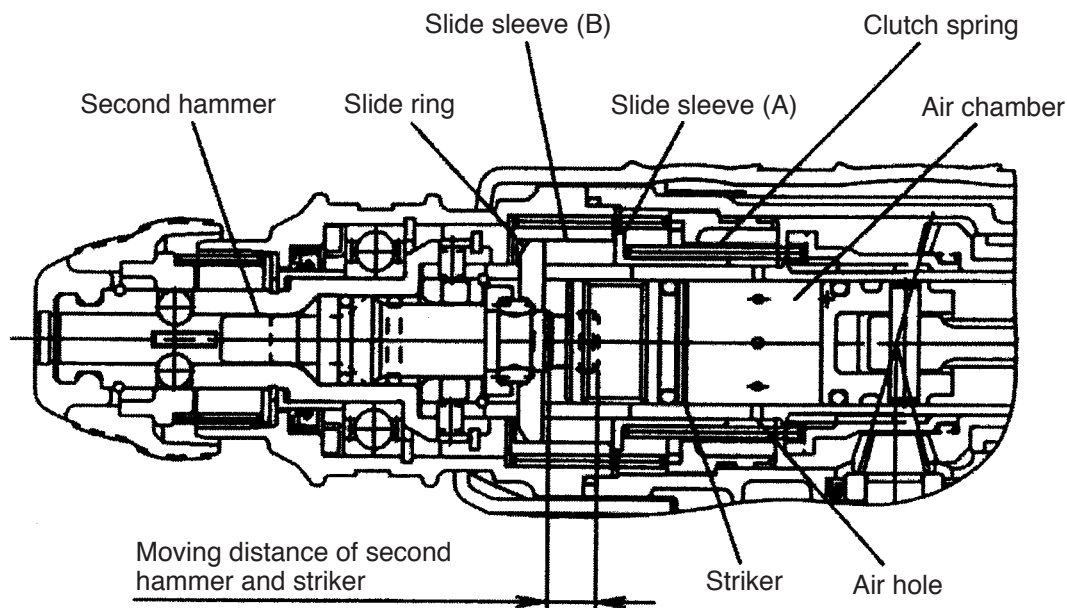

Fig. 4
When the working tool is released from the workpiece, slide sleeve (A) and the second hammer are forcibly moved to the position illustrated in Fig. 4 by clutch spring, and the striker moves out of striking position. When this occurs, the air holes located at the position unaffected by the rebound of the striker at no load are opened and the pressure within the air chamber remains unchanged even though the piston continues to reciprocate, thereby preventing striking operation.